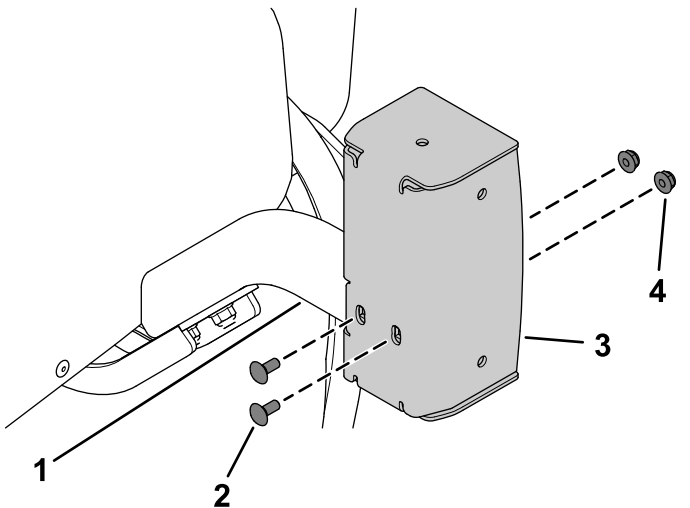

Figure 25
- Secure the left light housing and right light housing to the left short mount and right short mount using 4 carriage bolts (1/4 x 5/8 inch) and 4 locknuts (1/4 inch) as shown in Figure 25.